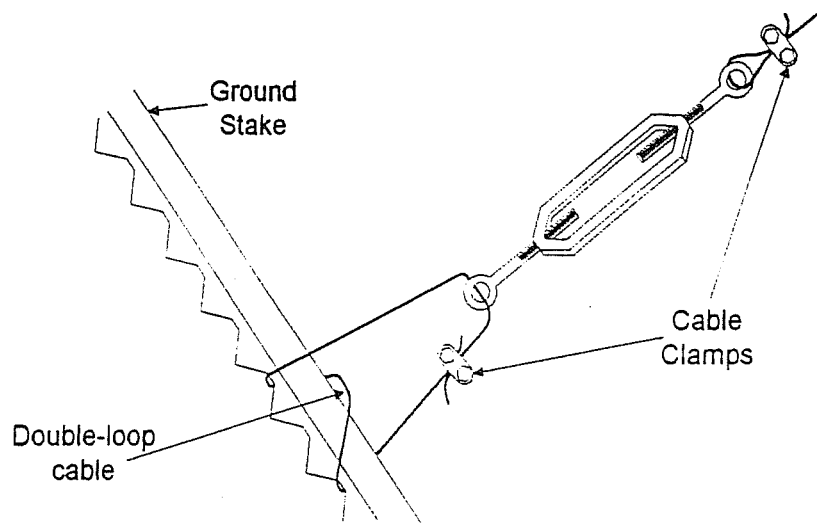

Figure 4-8
5. Attach the lowest guy wires to the "second" and "third" stakes, double looping the wire and loosening the turnbuckle as shown in Figure 4-8.